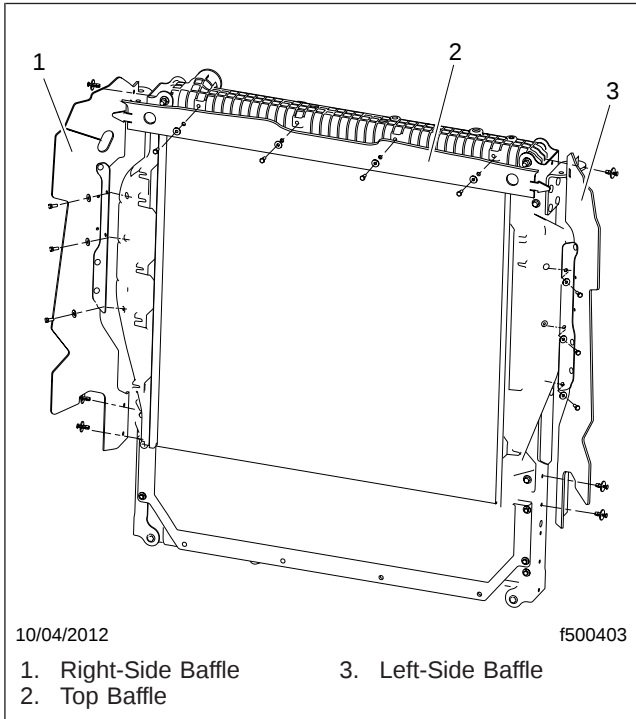

Fig. 8, Radiator Baffle Installation
26. Install the three new radiator baffles on the CAC. See Fig. 8.